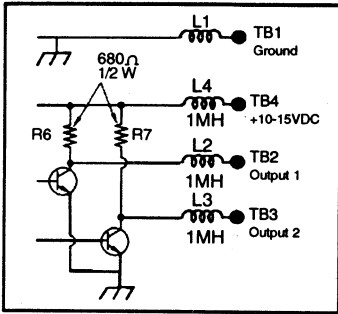
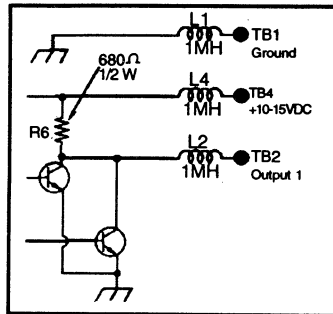
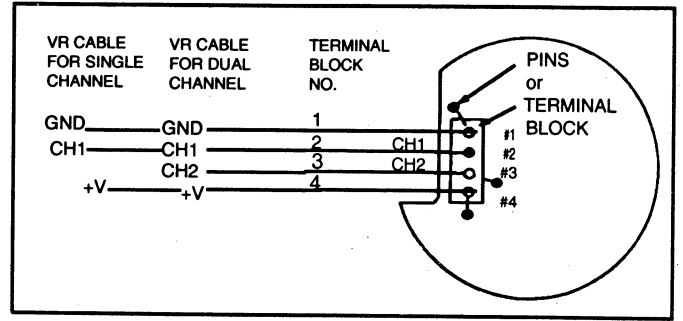

Figure 4. Wiring Connections for Dual Output Models.
Figure 5. Wiring Connections for Single Output Models.
Figure 6. Terminal Block Circuit Connections.
C. WIRING. See Figure 4 for output and operating voltage connections for Dual Output Models. See Figure 5 for output and operating voltage connections for Single Output Models. See Figure 6 for terminal block circuit connections.